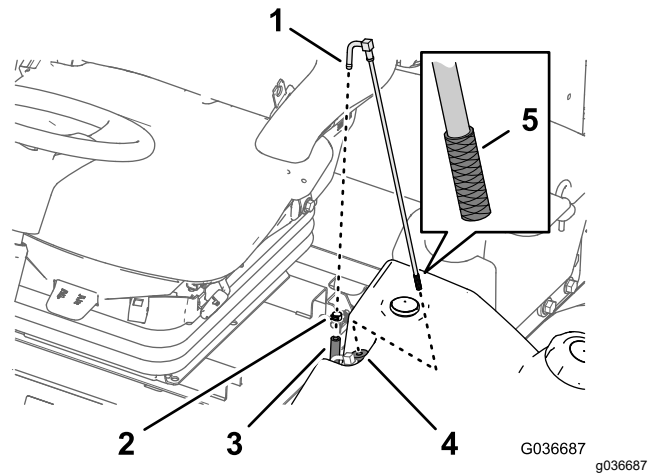

Figure 65
2. Separate the hose from the fitting (Figure 65).
3. Lift the fuel-pickup tube from the fuel tank (Figure 65).
4. Clean any debris from the screen at the end of the fuel-pickup tube (Figure 65).
5. Insert the fuel-pickup tube through the rubber bushing and into the tank (Figure 65).
1. Remove the hose clamp that secures the fuel supply hose to the fitting of the fuel-pickup tube (Figure 65).